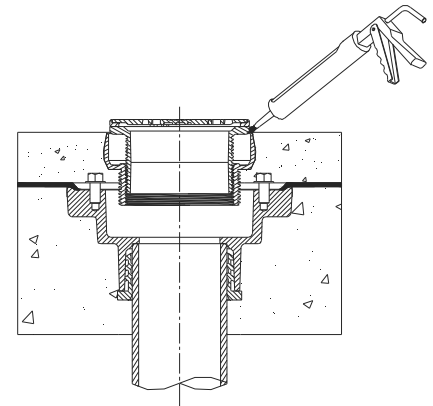

**Fig. 10**
10. Remove rough-in cover. See Fig. 10